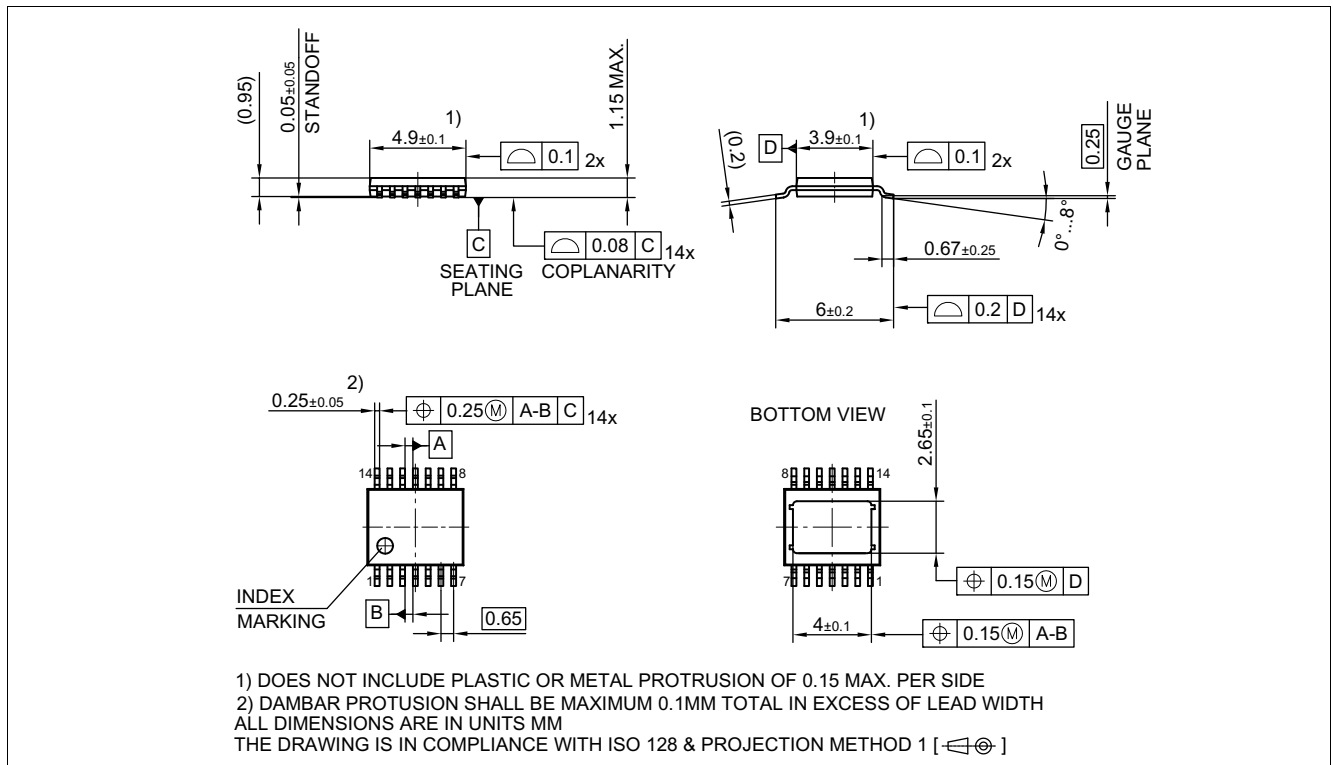
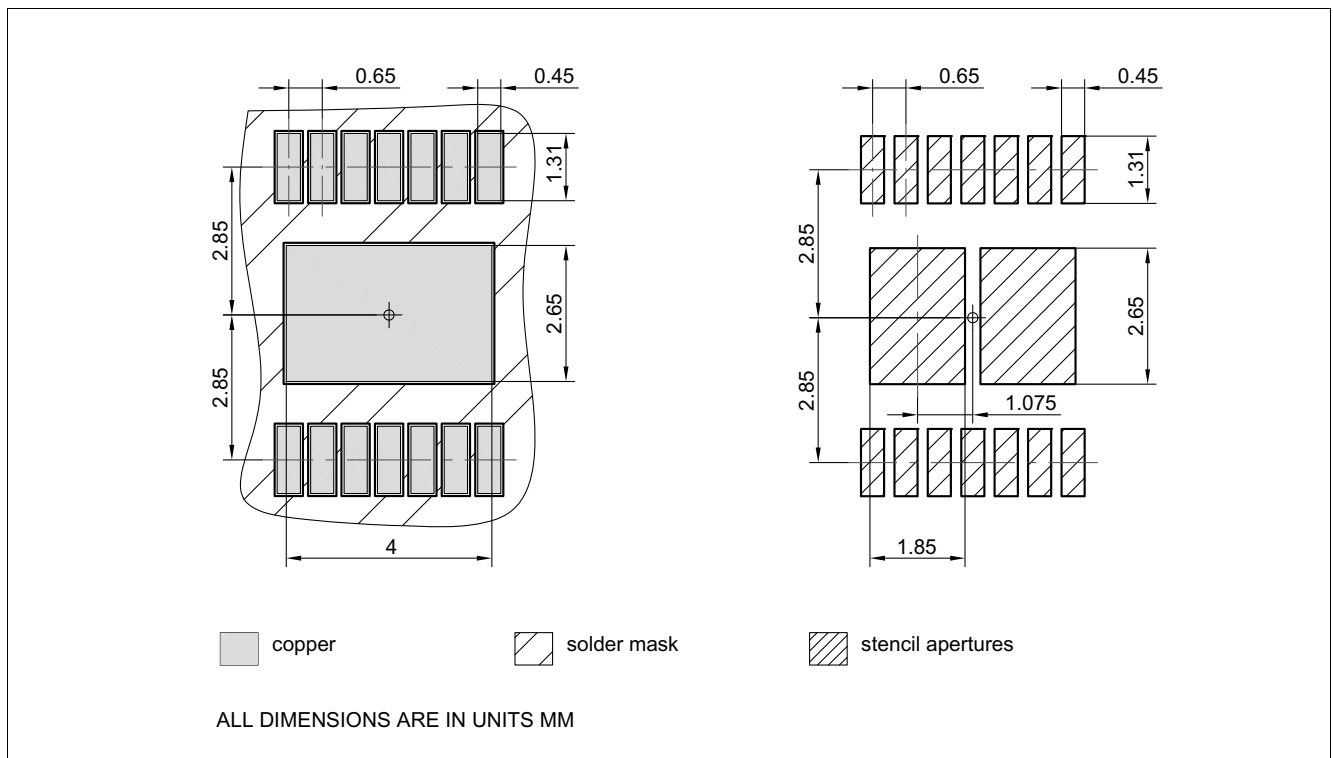

Figure 44 PG-TSDSO-14 (Thin (Slim) Dual Small Outline 14 pins) Package Outline
Figure 45 PG-TSDSO-14 (Thin (Slim) Dual Small Outline 14 pins) Package pads and stencil
1.03, 2018-10-18	<p>Chapter 9.3.1 updated (typo)</p> <p>Page 1: updated (Package PG-TSDSO-14-22 → Package PG-TSDSO-14)</p> <p>Figure 29 updated</p> <p>Figure 44 updated (PG-TSDSO-14-22 (Thin (Slim) Dual Small Outline 14 pins) Package Outline → PG-TSDSO-14 (Thin (Slim) Dual Small Outline 14 pins) Package Outline)</p> <p>Figure 45 updated (PG-TSDSO-14-22 (Thin (Slim) Dual Small Outline 14 pins) Package pads and stencil → PG-TSDSO-14 (Thin (Slim) Dual Small Outline 14 pins) Package pads and stencil)</p> <p>Table 1 updated ((Symbol: $I_{VS(SLEEP)}$ → $I_{VS(SLEEP)_{85}}$), (Parameter: Minimum Overvoltage protection ($T_J = 25\text{ °C}$) → Minimum Overvoltage protection ($T_J \geq 25\text{ °C}$))</p> <p>P_9.6.0.6 updated (Note or Test Condition: removed unnecessary line-break)</p> <p>Chapter 7.4.1 updated chapter title (PROFET → PROFET™)</p> <p>Table 12 updated table title (PROFET → PROFET™)</p> <p>Chapter 8.6.1 updated chapter title (PROFET → PROFET™)</p> <p>Table 16 updated table title (PROFET → PROFET™)</p> <p>Chapter 9.5.1 updated chapter title (PROFET → PROFET™)</p> <p>Table 21 updated table title (PROFET → PROFET™)</p> <p>P_4.1.0.21, P_4.1.0.22, P_4.1.0.23, P_4.1.0.24 updated (footnote ESD standards)</p> <p>Table 1 updated ($R_{DS(ON)}$ → $R_{DS(ON)_{150}}$), ($V_{DS(CLAMP)}$ → $V_{DS(CLAMP)_{25}}$)</p> <p>Chapter 8.5.2 updated phrasing</p> <p>P_7.5.3.14 Table subheading "Switching Energy" added</p> <p>P_7.5.3.15 Table subheading "Switching Energy" added</p> <p>Chapter 6.4 added conditions</p> <p>Chapter 7.5 added conditions</p> <p>P_7.5.3.14 updated (Test condition: add "See Figure")</p> <p>P_7.5.3.15 updated (Test condition: add "See Figure")</p> <p>Chapter 8.7 added conditions</p> <p>Chapter 9.6 added conditions</p> <p>P_9.7.3.27 updated (Test condition: add "See Figure")</p> <p>P_9.7.3.29 updated (Test condition: add "See Figure")</p> <p>Chapter 7.3.1 typo corrected (link to Figure 19 added)</p>